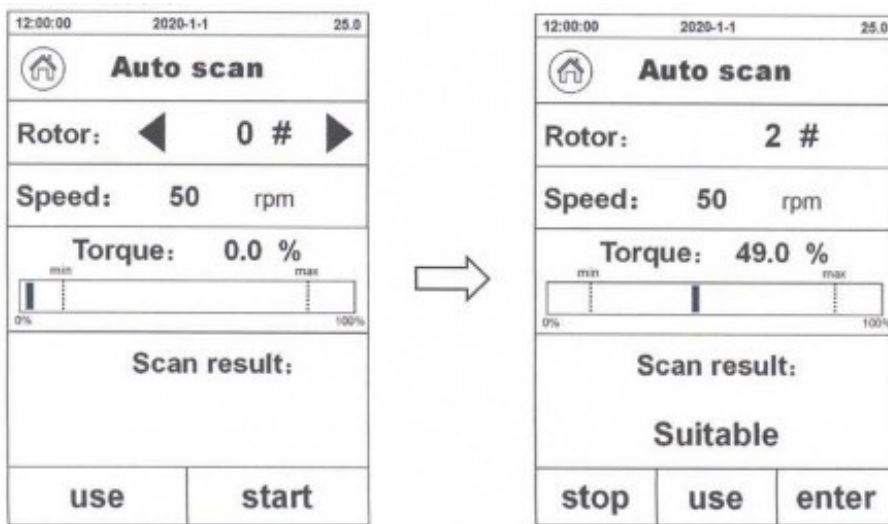

Fig. 23
7. Automatic scan: This function can provide the operator with the best combination of rotor and speed. Click “Auto Scan” in the upper right corner of the parameter setting interface, the interface will switch to the scanning interface {Fig.23}, set any rotor, and install this type of rotor at the same time, click “start” to start scanning, and the “Scan Results” column The scan status starts to be displayed. When the scan result meets the test requirements, “Suitable” is displayed at the “Scan result”. Click “Use” to directly apply the scan result to the test parameters. If the scan result fails to meet the test requirements, “Please replace the small rotor” or “Please replace the large rotor” is displayed at the “Scan result”, and then follow the on-screen instructions.